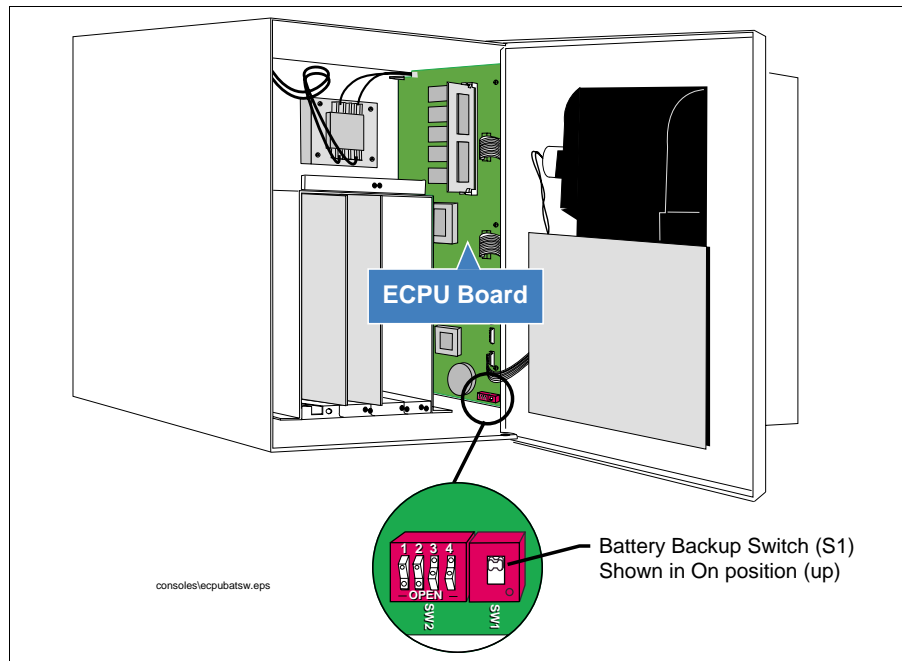

Figure 1. TLS-350R Console ECPU Board Battery Switch
2. To retain current programming, be sure that the ECPU board battery switch is set to "ON" (SW1 in the closed position - see Figure 1). To avoid electrical shock or damage to components when accessing the battery switch, avoid touching any circuit components with your hand or any conductive tool.